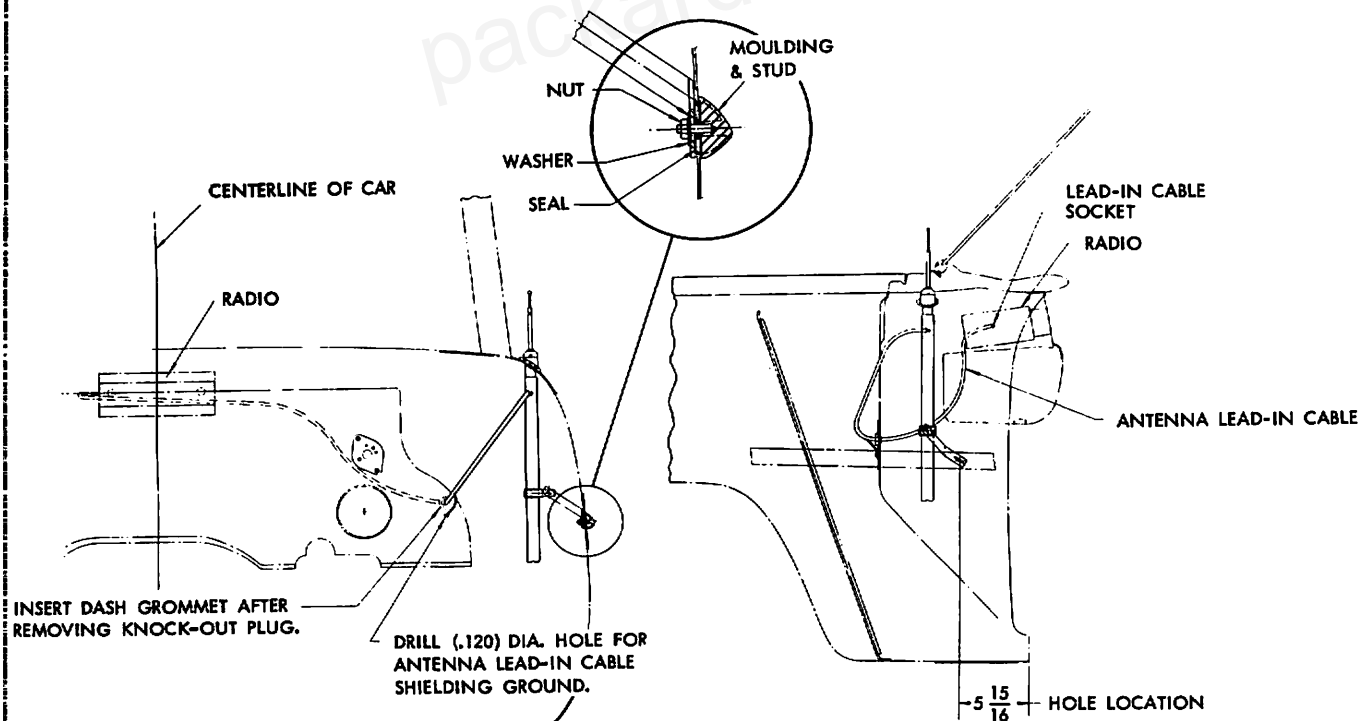

Figure 5
5. Knock out plug for lead-in cable dash grommet, as shown in figure 5. Install dash grommet.
6. Push lead-in cable thru grommet: Attach ground connection to dash with No. 8 self tapping screw: Plug lead-in connector into radio socket located where shown. See figure 5.